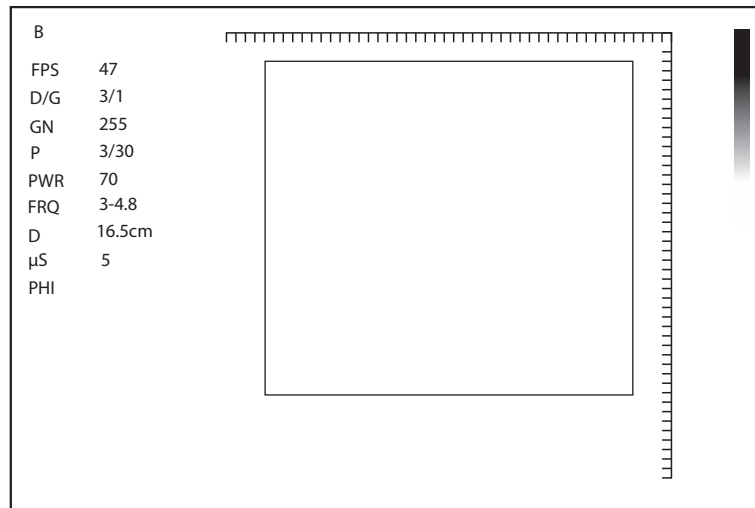

Figure 6-42 Panoramic Imaging in Frozen Mode
5. After acquisition, press the  key to freeze the image and the image is displayed in full view on the screen as shown in Figure 6-42.